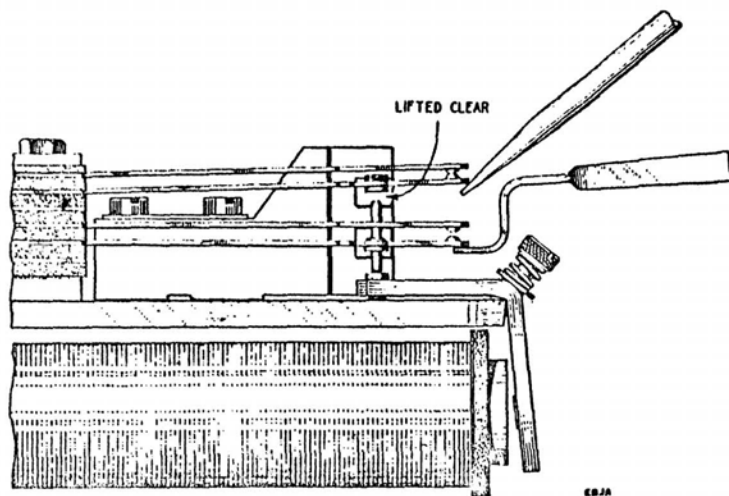

FIG. 20. CHECKING LEVER SPRING PRESSURE ('MAKE' CONTACT UNITS)
27. *'Make' contacts.*—Each lever spring should be tensioned towards the armature so that it exerts a pressure in accordance with the table in par. 25. The method of measuring the lever-spring pressure of 'make' contacts is the same as for 'break' units, and is shown in Fig. 20.